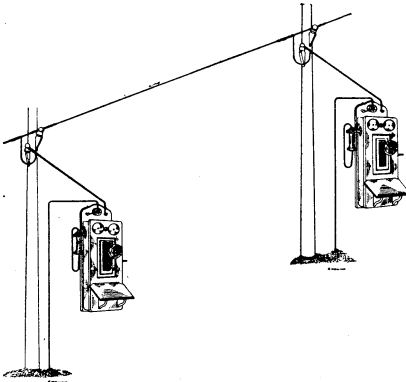

Fig. 1.
**GROUNDING AND METALLIC SYSTEMS.**—Before arrangements are made for building the telephone line a choice should be made between a grounded system and a metallic system. In the **grounded system**, Fig. 1, only one line wire is necessary, and each of the telephones has one wire connected to line and one wire to ground. This system gives good results if properly installed and there are no electric light, power or trolley wires in the vicinity; otherwise, there is likely to be much objectionable humming and buzzing in the receivers.